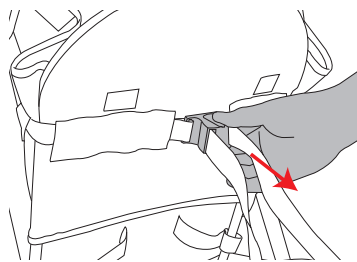

Figure 11
- To recline a seat, grasp the buttons on the top and bottom of the recline mechanism and gently pull towards the rear of the stroller until the seat is in the desired position. See Figure 11.